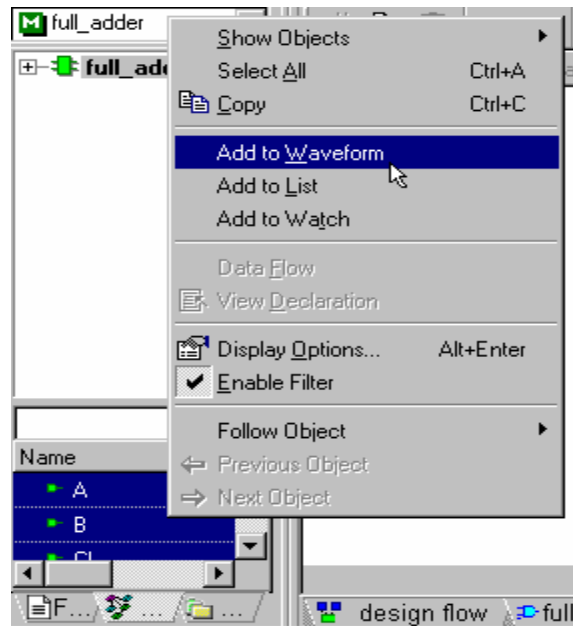

Figure 30
6. Add the signals to the waveform by dragging the signals one by one into the left side of the waveform. A faster method of adding signals to the waveform is to select the signals using the Shift or Ctrl keys. Now you may drag them as described above into the waveform. You can also right-click on a selected signal, and click the Add to waveform option in the pop-up menu as shown in Figure 30.